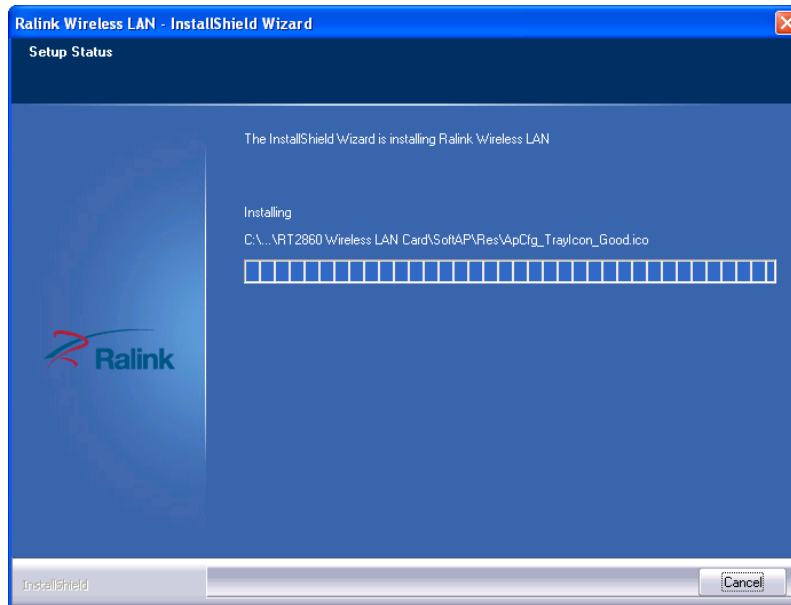

Figure 5-36: Setup Status
Step 11: The **Setup Status** screen in **Figure 5-36** appears and displays the progress of the installation.